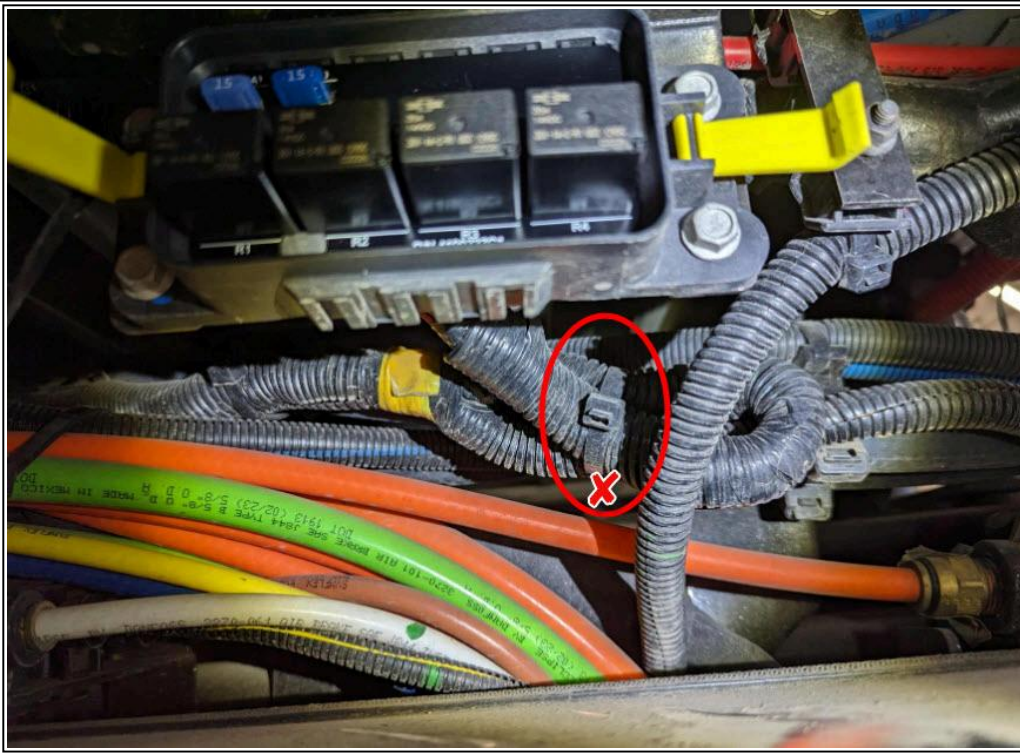

Figure 2: Improper securement of aftertreatment PDM harness
1. Cut any tie straps that secure the aftertreatment PDM harness within 10 inches of the back of the PDM. (Figure 2)